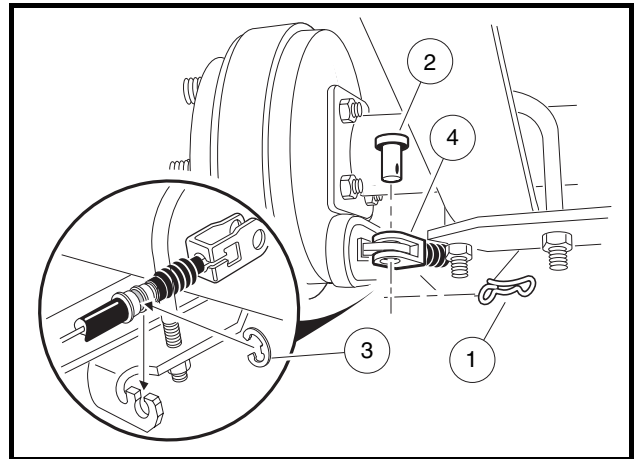

Figure 16-7 Brake Cables
5. Remove the bow tie pins (1), brake cable clevis pins (2), and cable retaining E-clips (3). Disconnect the brake cables (4) (**Figure 16-7, Page 16-5**).